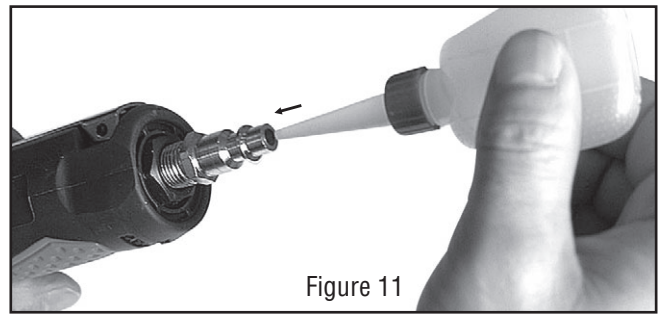

Figure 11
2. Place 2 - 3 drops of air tool oil into the male plug before each use. (See Figure 11)